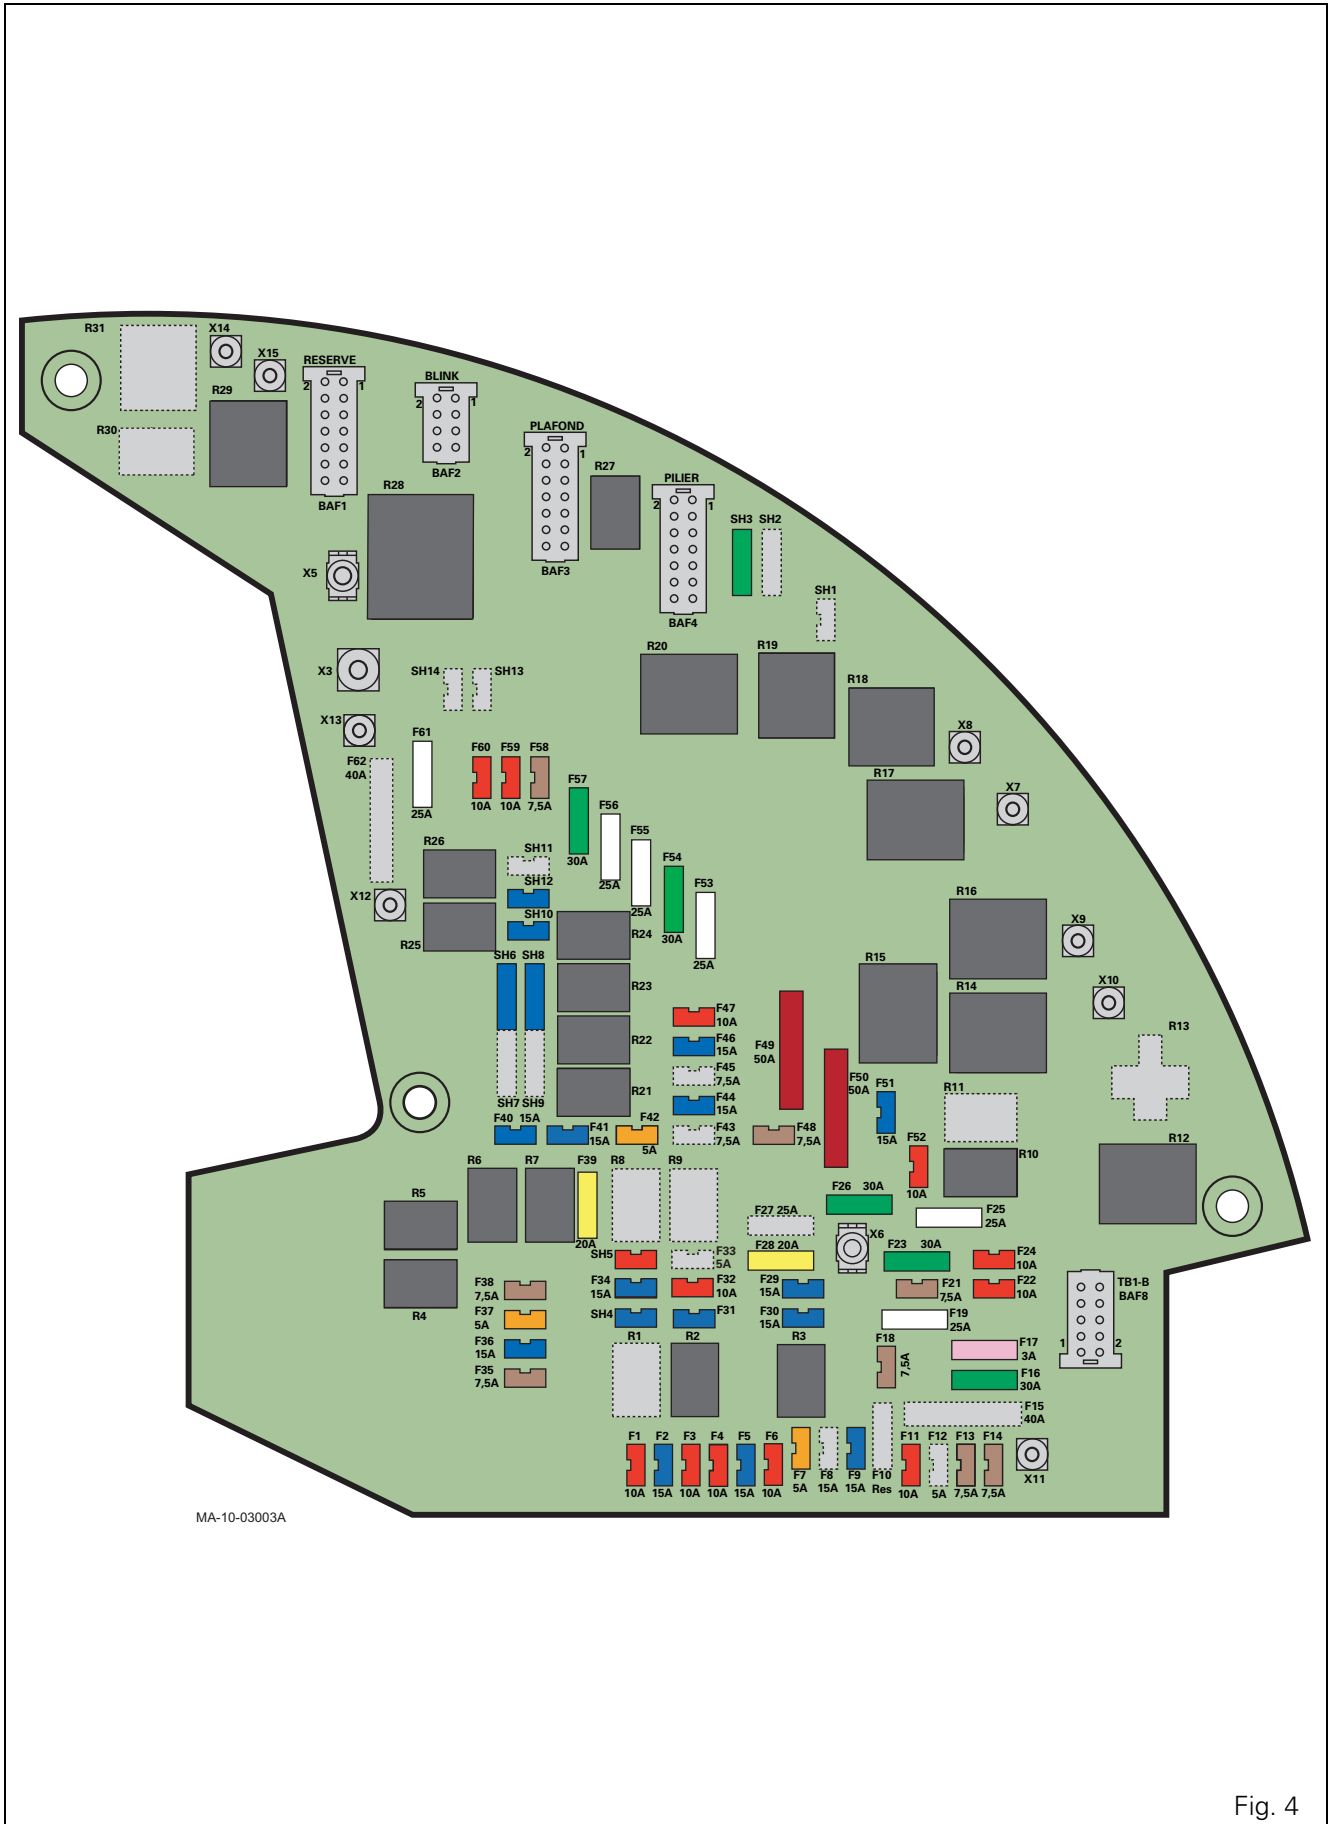

Fig. 4
Dynashift with Sisu engine (Fig. 4)
The fuses and relays of the electrical or electronic board (Fig. 4) are indicated by a black mark on their locations on the fuse box (2).